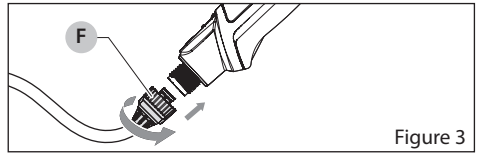

Figure 3
Install the hose assembly (F) onto the power wand tool. Turn clockwise to tighten. See Figure 3.